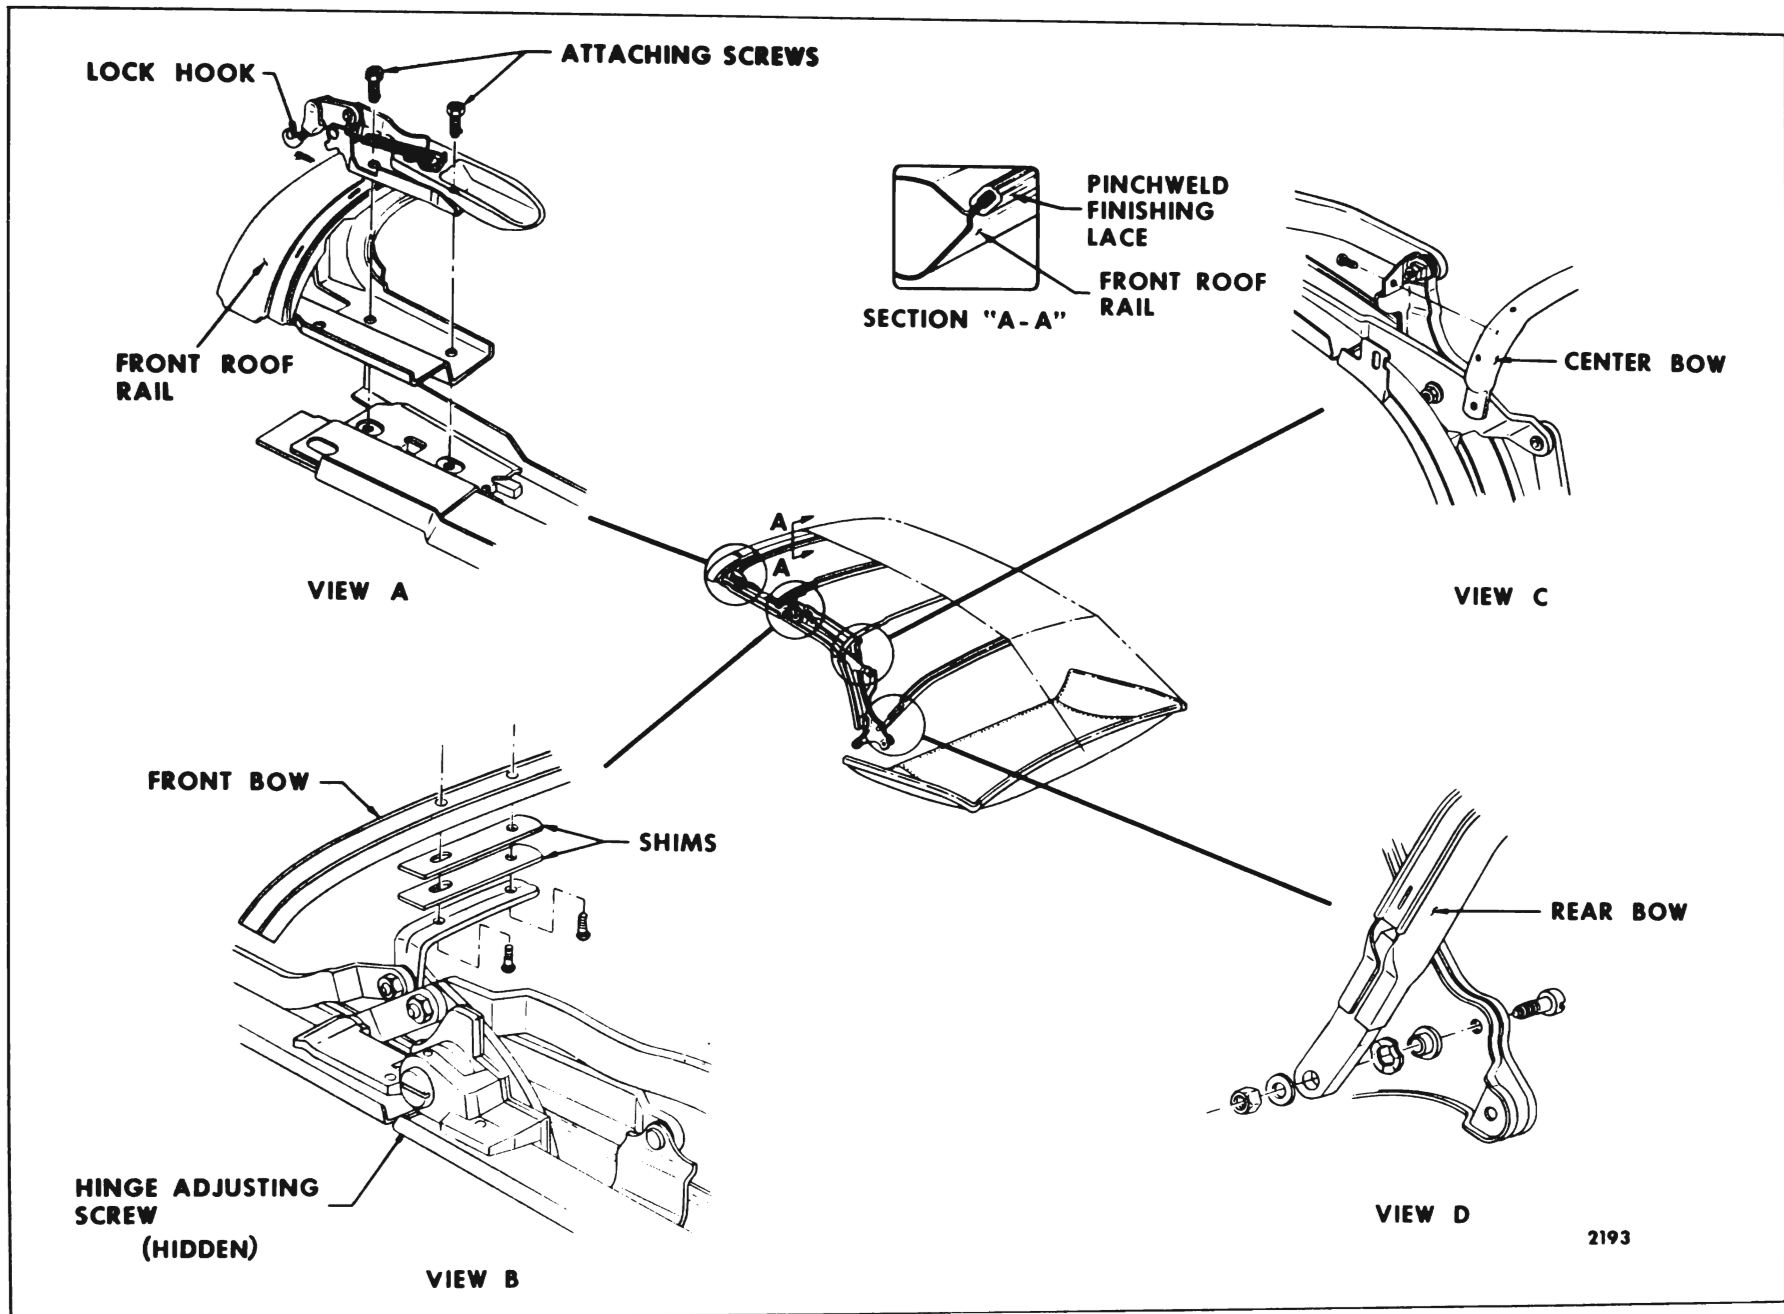
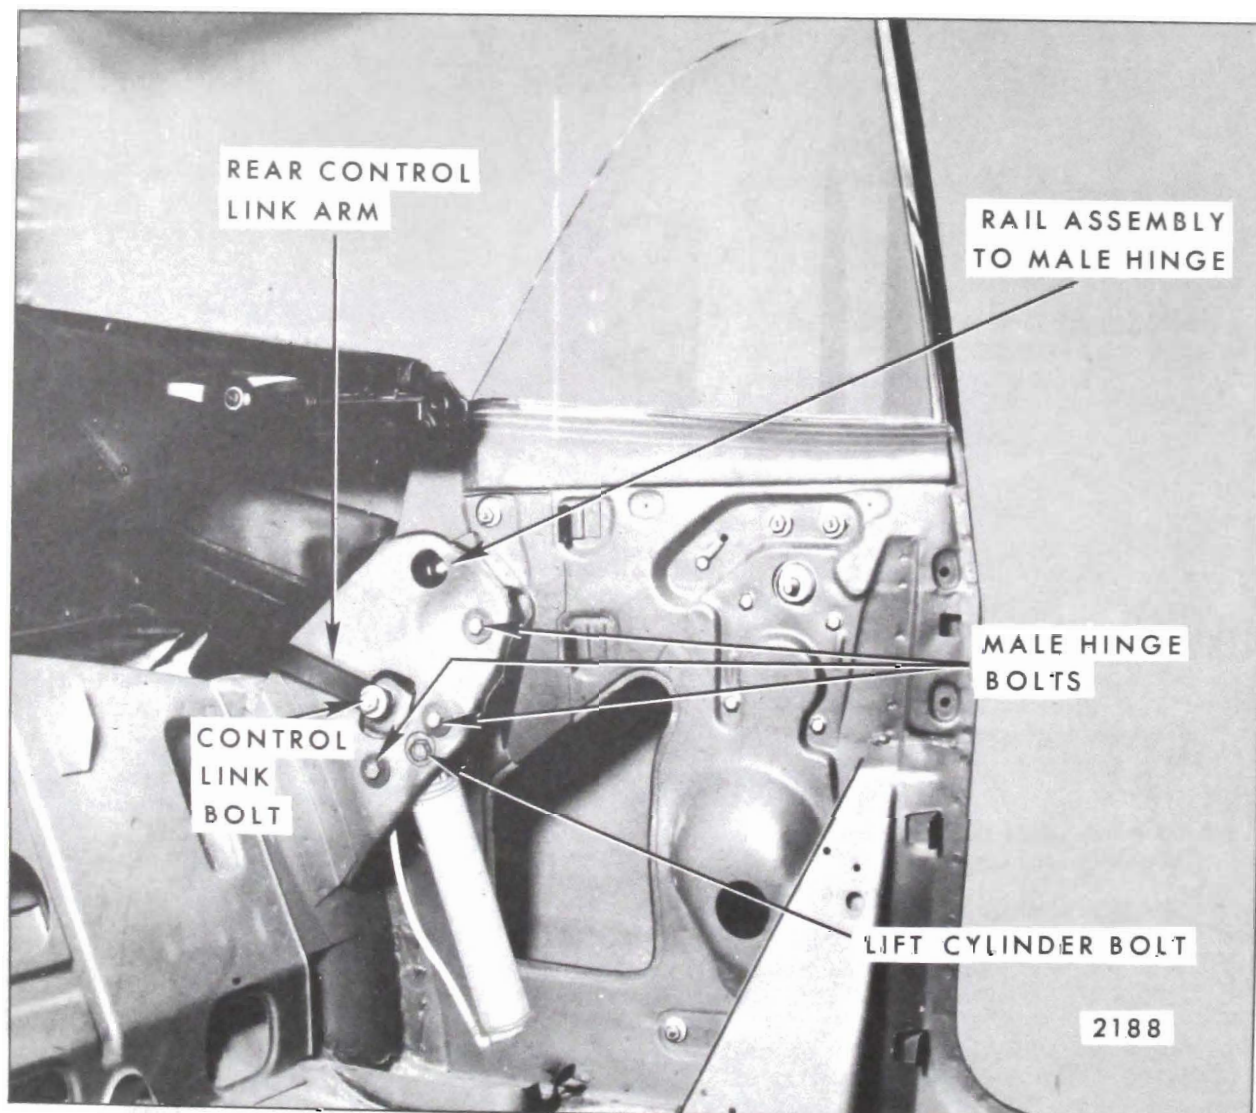

Fig. 13-77 — "A" Body Folding Top Adjustments
Fig. 13-78—"A" Body Convertible Top Linkage Attachments
2. Loosen lock assembly attaching screws on side roof front rail and adjust front roof rail fore or aft as required. Repeat on opposite side if necessary. (See View "A", Fig. 13-77).
2. With top in a half-open position, remove lock attaching screws; then remove lock assembly from front roof rail. (See View "A", Fig. 13-77).
- b. Loosen one bolt securing control link sufficiently to permit adjustment of link (See Fig. 13-78).
- b. Loosen male hinge assembly (See Fig. 13-78).
- b. Loosen male hinge assembly (Fig. 13-78).
- c. Rotate male hinge forward to lower stack height or rearward to raise stack height (Fig. 13-78).
NOTE: When rotating male hinge be certain position of rear rail to male hinge is maintained (Fig. 13-78).
| A. Difficult locking action at front roof rail. | <ol style="list-style-type: none"> 1. Lock hook improperly adjusted. 2. Misaligned front roof rail front weatherstrip. 3. Front roof rail misaligned. | <p>Adjust lock hook counterclockwise. (See View "A" in Fig. 13-77).</p> <p>Loosen, realign and retack front roof rail front weatherstrip.</p> <p>Adjust front roof rail. (View "A" in Fig. 13-77).</p> |
| B. Top does not lock tight enough to windshield header. | <ol style="list-style-type: none"> 1. Lock hook improperly adjusted. 2. Misaligned front roof rail front weatherstrip. 3. Front roof rail misaligned. | <p>Adjust lock hook clockwise. (See View "A" in Fig. 13-77).</p> <p>Loosen, realign and retack front roof rail front weatherstrip.</p> <p>Adjust front roof rail.</p> |
| C. Top travels too far forward. | <ol style="list-style-type: none"> 1. Front roof rail misaligned. 2. Male hinge assembly misaligned. | <p>Adjust front roof rail rearward (See View "A" in Fig. 13-77).</p> <p>Adjust male hinge assembly rearward. (Fig. 13-78).</p> |
| D. Top does not travel forward far enough. | <ol style="list-style-type: none"> 1. Front roof rail misaligned. 2. Male hinge assembly misaligned. | <p>Adjust front roof rail forward. (See View "A" in Fig. 13-77).</p> <p>Adjust male hinge assembly forward. (Fig. 13-78).</p> |
| E. Side roof rail rear weatherstrip too tight against rear of rear quarter window. | <ol style="list-style-type: none"> 1. Male hinge assembly misaligned. | <p>Adjust male hinge assembly rearward. (Fig. 13-78).</p> |
| F. Gap between side roof rail rear weatherstrip and rear of rear quarter window. | <ol style="list-style-type: none"> 1. Male hinge assembly misaligned. | <p>Adjust male hinge assembly forward and/or shim side roof rail rear weatherstrip forward as required (Fig. 13-78).</p> |
| G. Side roof rail rear weatherstrip too tight against top of rear quarter window. | <ol style="list-style-type: none"> 1. Male hinge misaligned. | <p>Adjust male hinge upward. (Fig. 13-78).</p> |
| H. Gap between side roof rail rear weatherstrip and top of rear quarter window. | <ol style="list-style-type: none"> 1. Male hinge misaligned. | <p>Adjust male hinge downward and/or shim side roof rail rear weatherstrip downward as required. (Fig. 13-78).</p> |
| I. Sag at front to center side roof rail joint. | <ol style="list-style-type: none"> 1. Control link misaligned. 2. Center side roof rail hinge adjusting screw improperly adjusted. | <p>Adjust control link downward. (Fig. 13-78).</p> <p>Adjust screw counterclockwise. (See View "B" in Fig. 13-77).</p> |
| J. Front and center side roof rails bow upward at hinge joint. | 1. Control link misaligned. | Adjust control link upward. (Fig. 13-78). |
| | 2. Center side roof rail hinge adjusting screw improperly adjusted. | Adjust screw clockwise. (See View "B" in Fig. 13-77). |
| K. Folding top dust boot is difficult to install. | 1. Improper stack height due to misaligned male hinge assembly. | Rotate male hinge forward or rearward as required. (Fig. 13-78). |
| L. Folding top dust boot fits too loosely. | 1. Improper stack height due to misaligned male hinge assembly. | Rotate male hinge assembly rearward as required. (Fig. 13-78). |
| M. Top material is too low over windows or side roof rails. | 1. Front roof bow improperly shimmed. | *Install one or two $1/8"$ shims between front roof bow and slat iron. (See View "B" in Fig. 13-77). |
| N. Top material is too high over windows or side roof rails. | 1. Front roof bow improperly shimmed. | *Remove one or two 1/8" shims from between front roof bow and slat iron. (See View "B" in Fig. 13-77). |